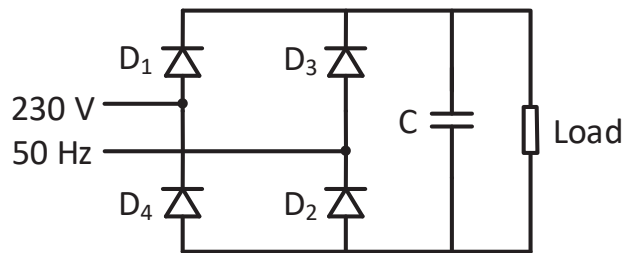

Fig. 1: Single phase rectifier
- 1 (a) A single phase rectifier is shown in Fig 1.